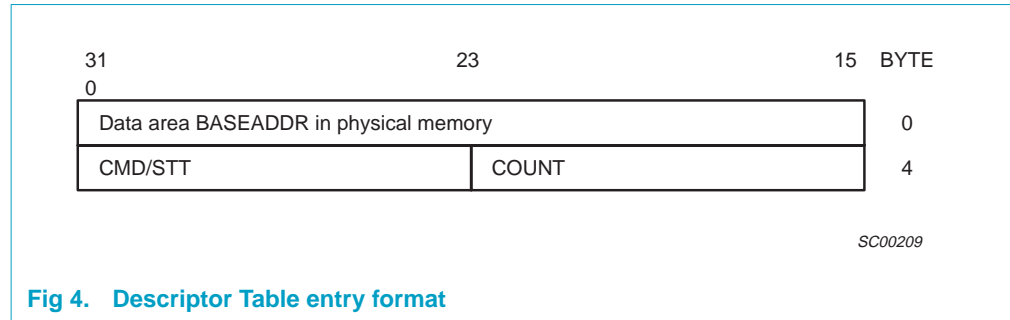

Fig 4. Descriptor Table entry format
All DMA transfers use Descriptor Tables (DT). The DT must be contiguous in the Host memory, and each DMA channel must have its own DT set up as one buffer. For transmission, each DT must have not empty DT entries, and the last entry of a DT must point to valid data, or to a linked descriptor table. Each DT entry is 8 bytes in size. It contains the base address, byte count and command/status bits as illustrated in **Figure 4**.